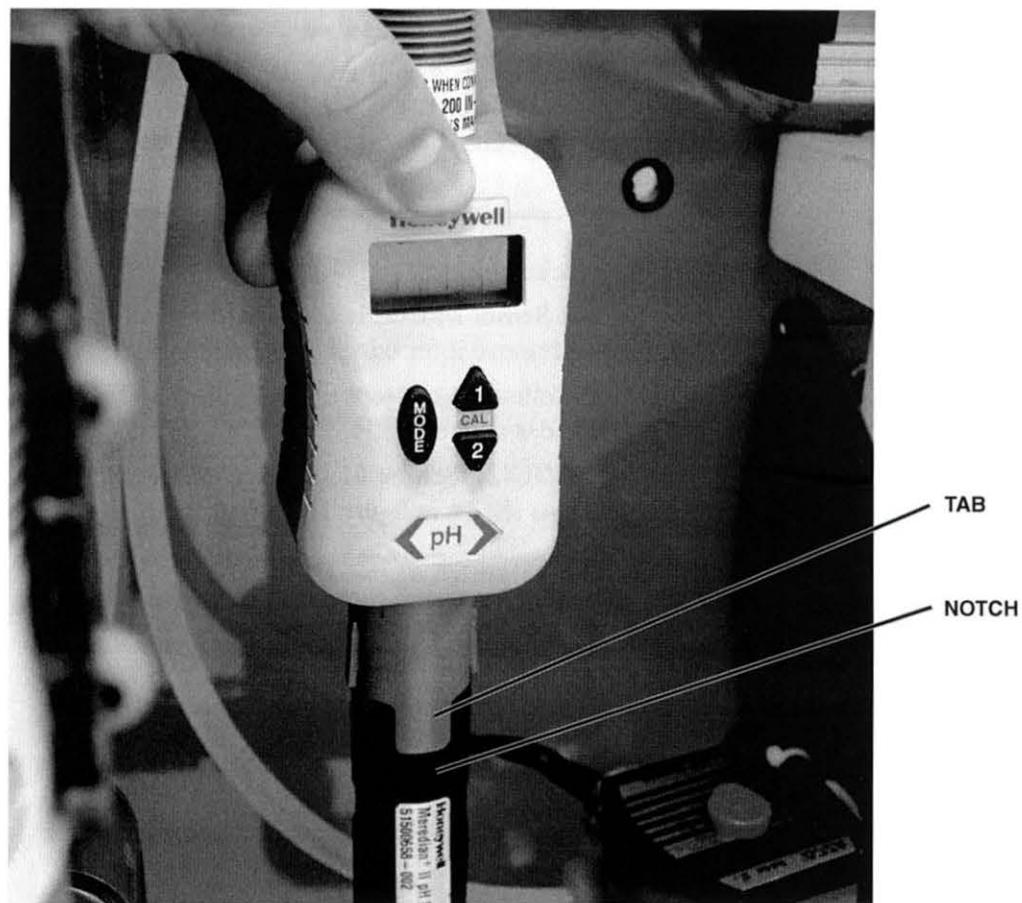

Figure 17. Tab Aligned with Notch
B. Align the tab on the DL421 Sensor Module with the notch in the electrode housing, as shown in figure 17.
This should have the display of the module facing toward the front, as figure 17 also shows.